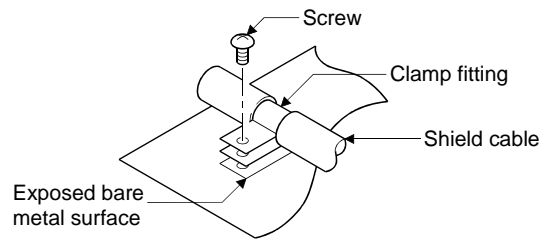

Figure 15.2 Shield grounding (Correct example)
2) Ground the exposed shield section to spacious area on the control panel. A clamp can be used as shown in Figure 15.2.